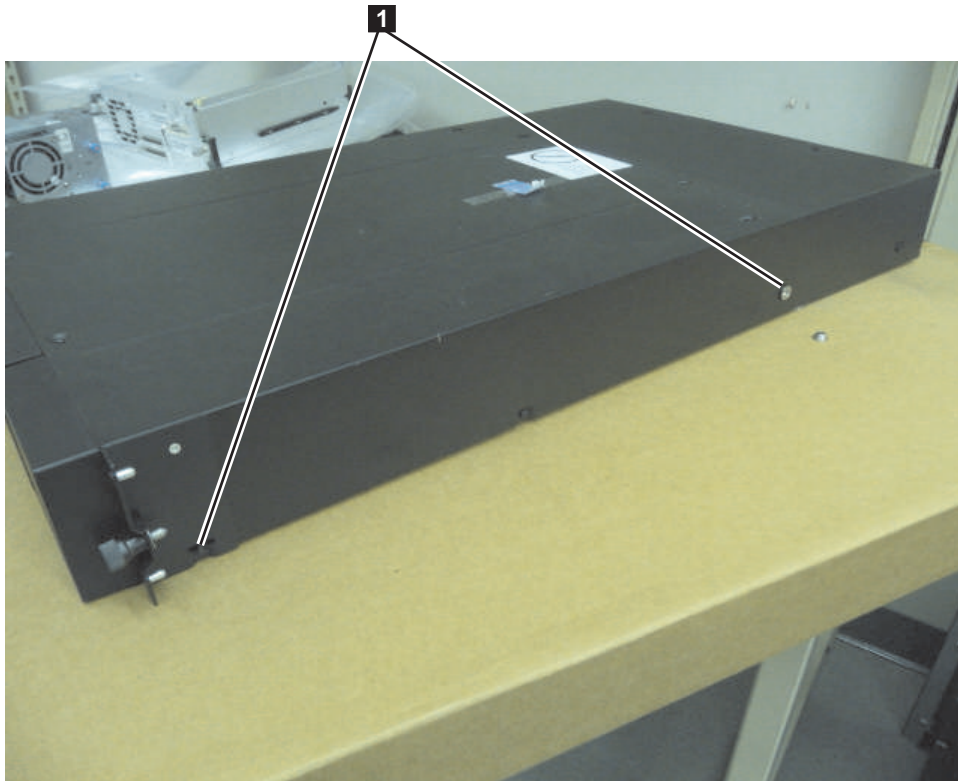

Figure 30. 2U library rack anchors and mounting brackets
4. Using the Torx wrench included in your shipment, remove the screws (**1**) as shown in Figure 30 on page 46. Screw locations on the 4U library are similar.
5. Install the library rack anchors (**2**) as shown in Figure 30 on each side of your library using the longest counter-sunk screws included in the rack kit.